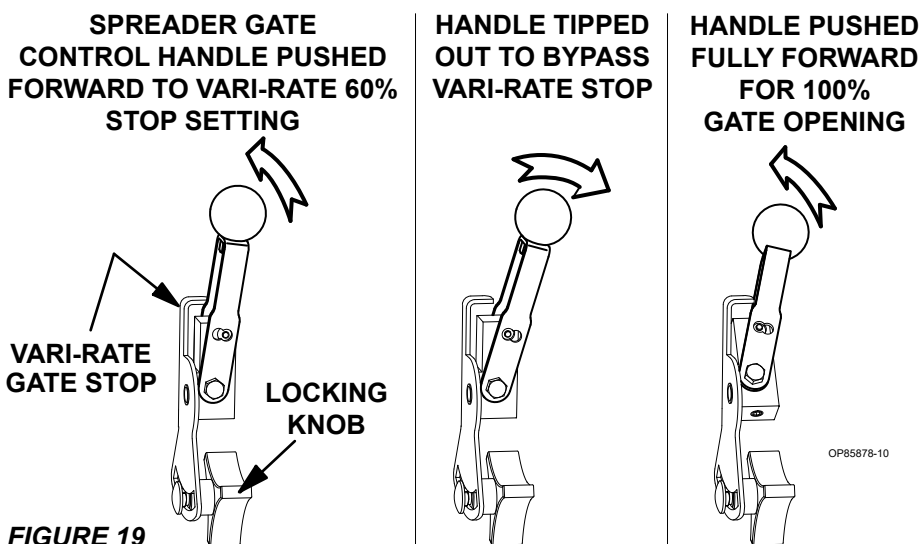

FIGURE 19
Step 2. *Set the spreader gate control handle to the tipped out position (bypass the vari-rate stop, see figure 19). This will allow the gate rate adjuster dial to control the gate opening.*
Step 2. *Set the spreader gate control handle to the tipped in position (see figure 19). This will allow the vari-rate stop up at the spreader gate control handle to control the gate opening.*